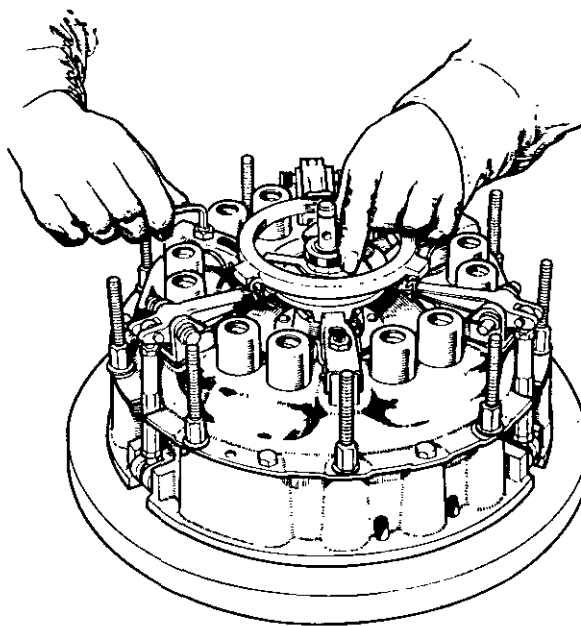

Figure 42.
8. Remove actuator and screw centre pillar firmly into adaptor. Place a spacer, Code 16X (some early spacers were marked "Code 16" only), on centre pillar — recess in spacer towards adaptor. Fit short setting finger on centre pillar and set adjusting screws on transmission levers so that when finger is rotated, whilst being held firmly and squarely against spacer, it just touches lever plate all the way round. Figure 42. When the levers are correctly set, hold screws stationary and firmly tighten locknuts.